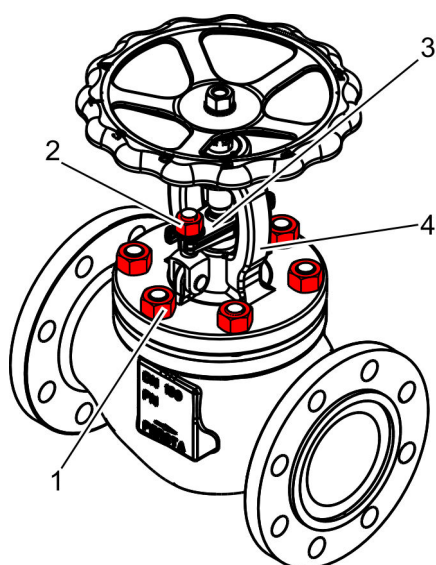

Fig. 26: Removing nuts
2. ➤ Use the hoist to safeguard the bonnet (Fig. 26/4) from falling off of the body.
3. ➤ Ensure that the bonnet (Fig. 26/4) and body cannot be lifted by the hoist.
Loosen and remove the nuts (Fig. 26/1) on the bonnet (Fig. 26/4).
5. ➤ Loosen and remove the nuts including washers (Fig. 26/2) on the gland follower flange (Fig. 26/3).